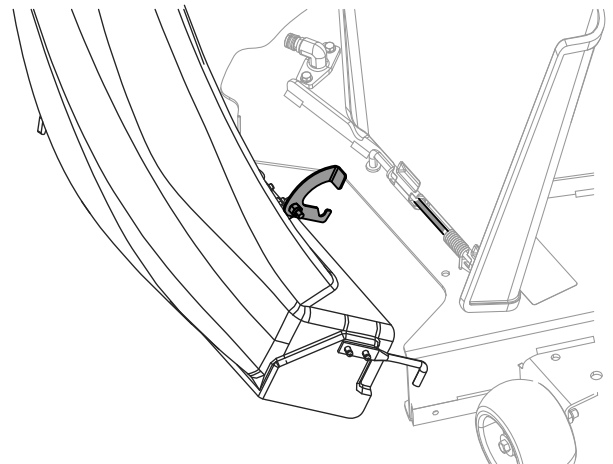

Figure 25
3. Pivot the chute back and toward the deck so chute is flush with the mower deck (Figure 25).